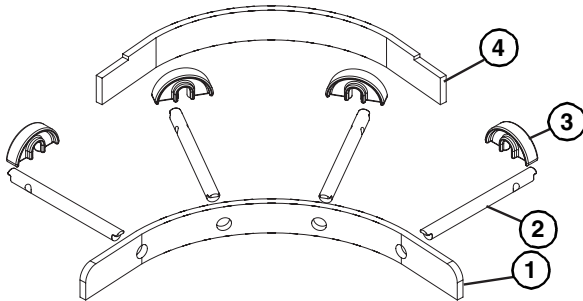

**Figure 30**
3. Insert the wear strips (Figure 30, item 1) into the appropriate slots in the frame (Figure 30, item 2), starting with the shortest wear strip on the inside of the curved section and working outward to the longest.